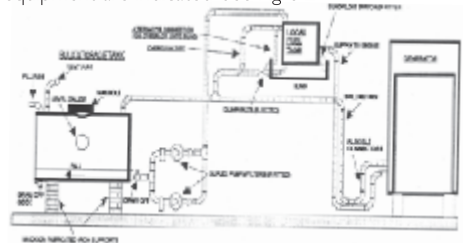

Fig. 5.2. With Intermediate Fuel Tank
5.6. With Intermediate Fuel Tank (Fig. 5.2)
1. An automatic duplex fuel transfer pump and primary filter system arranged to start the standby pump should the duty pump fail. The transfer pump(s) must be sized to cater for the total fuel required by the engine, i.e. fuel consumed and the spill return volumes (Fig. 5.2.);
The connection details for these additional items of equipment are indicated. See Fig. 5.2.